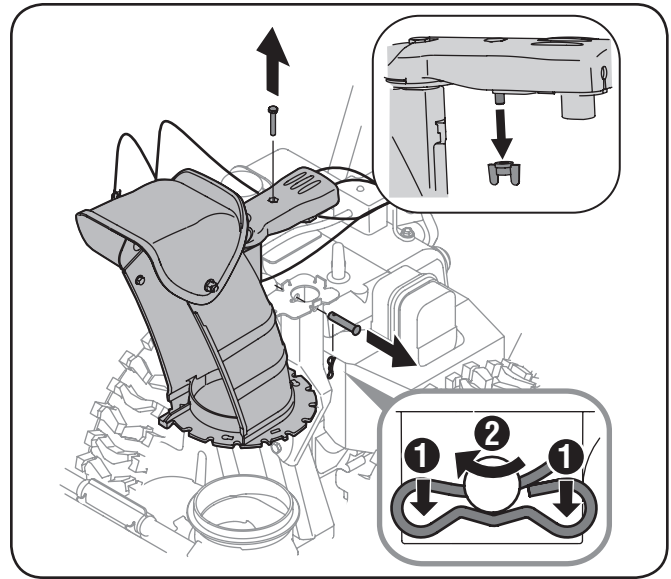

Figure 3-2
1. Remove wing nut and hex screw from chute control assembly and clevis pin and cotter pin from chute support bracket. Position the chute assembly (forward-facing) over the chute base. See Fig. 3-2.